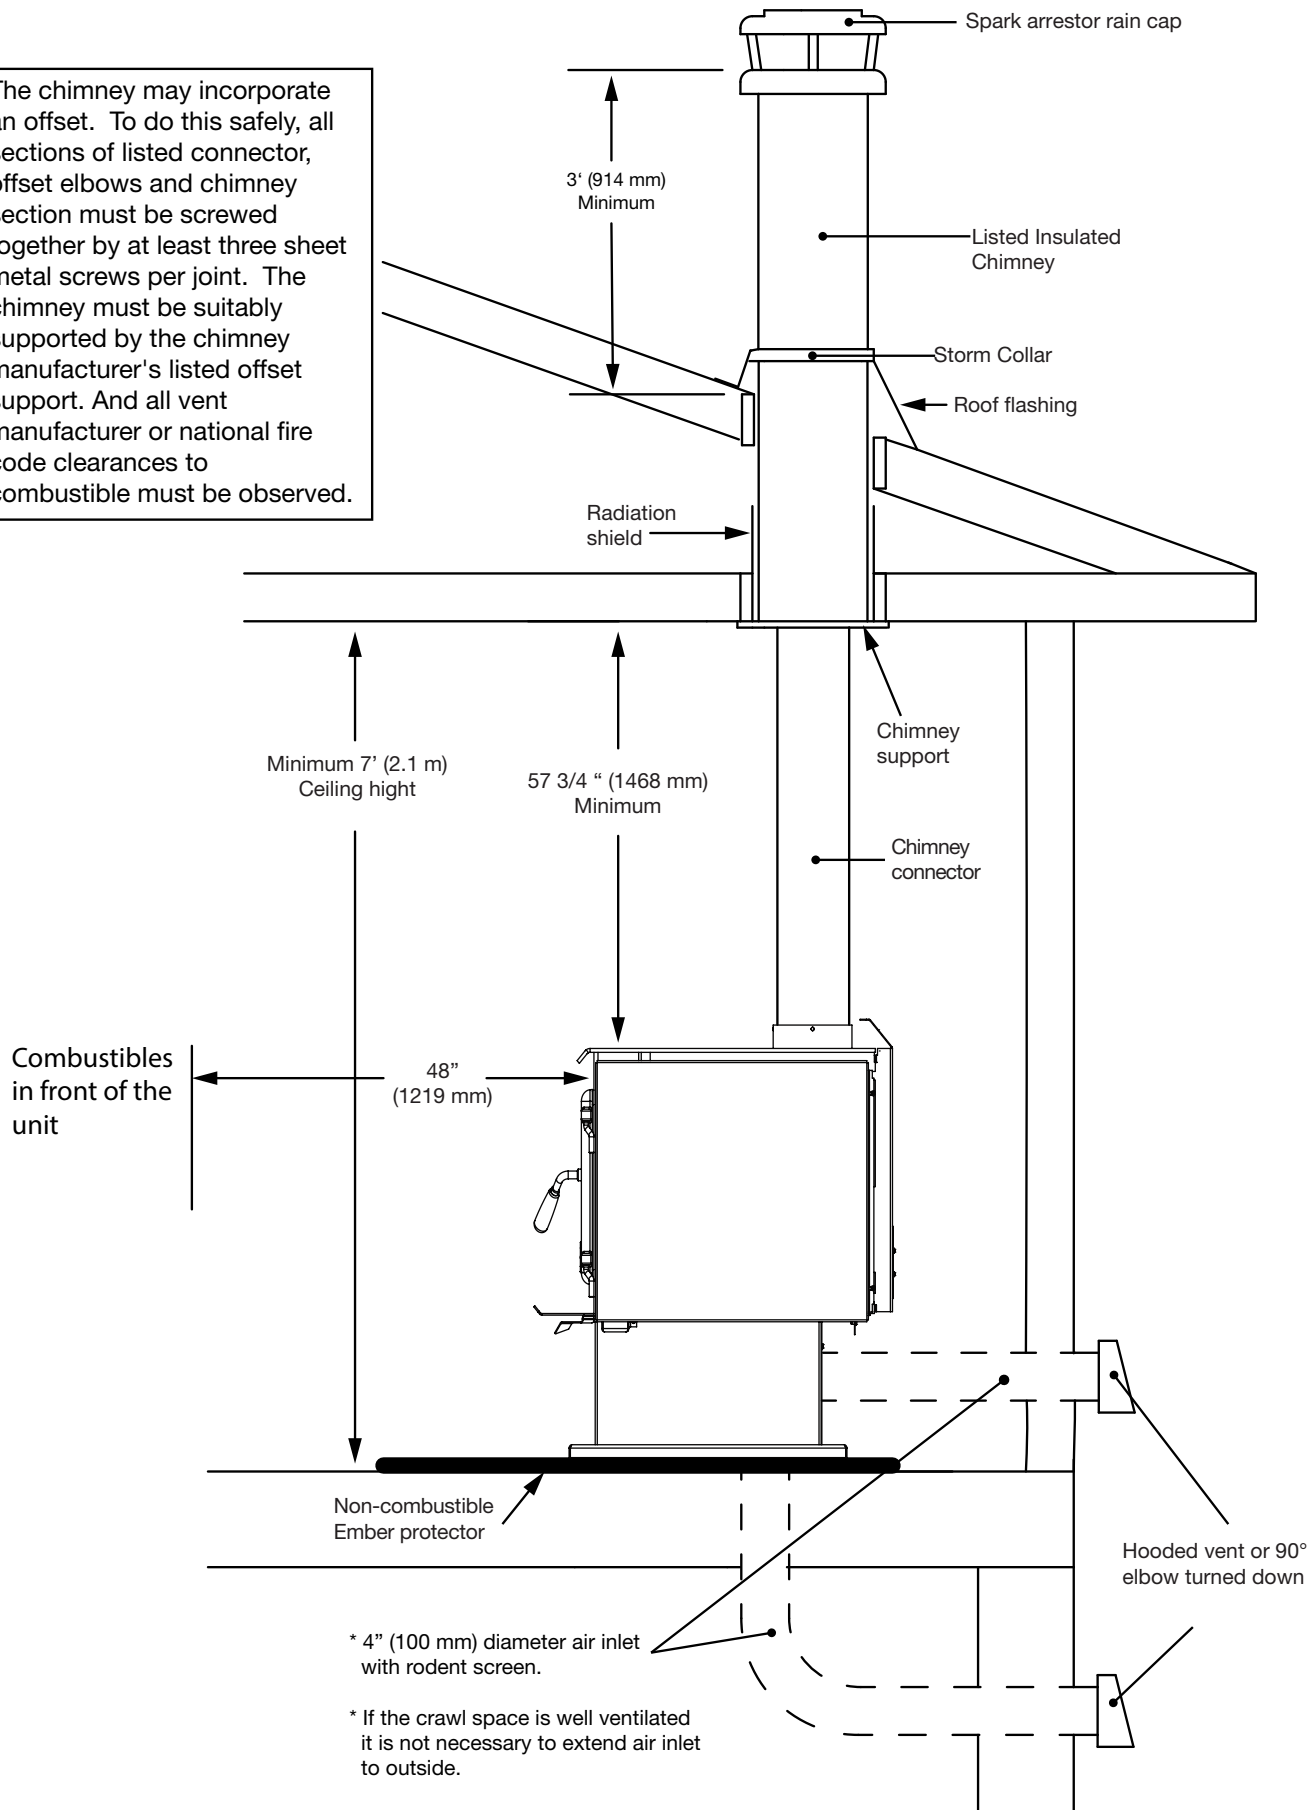
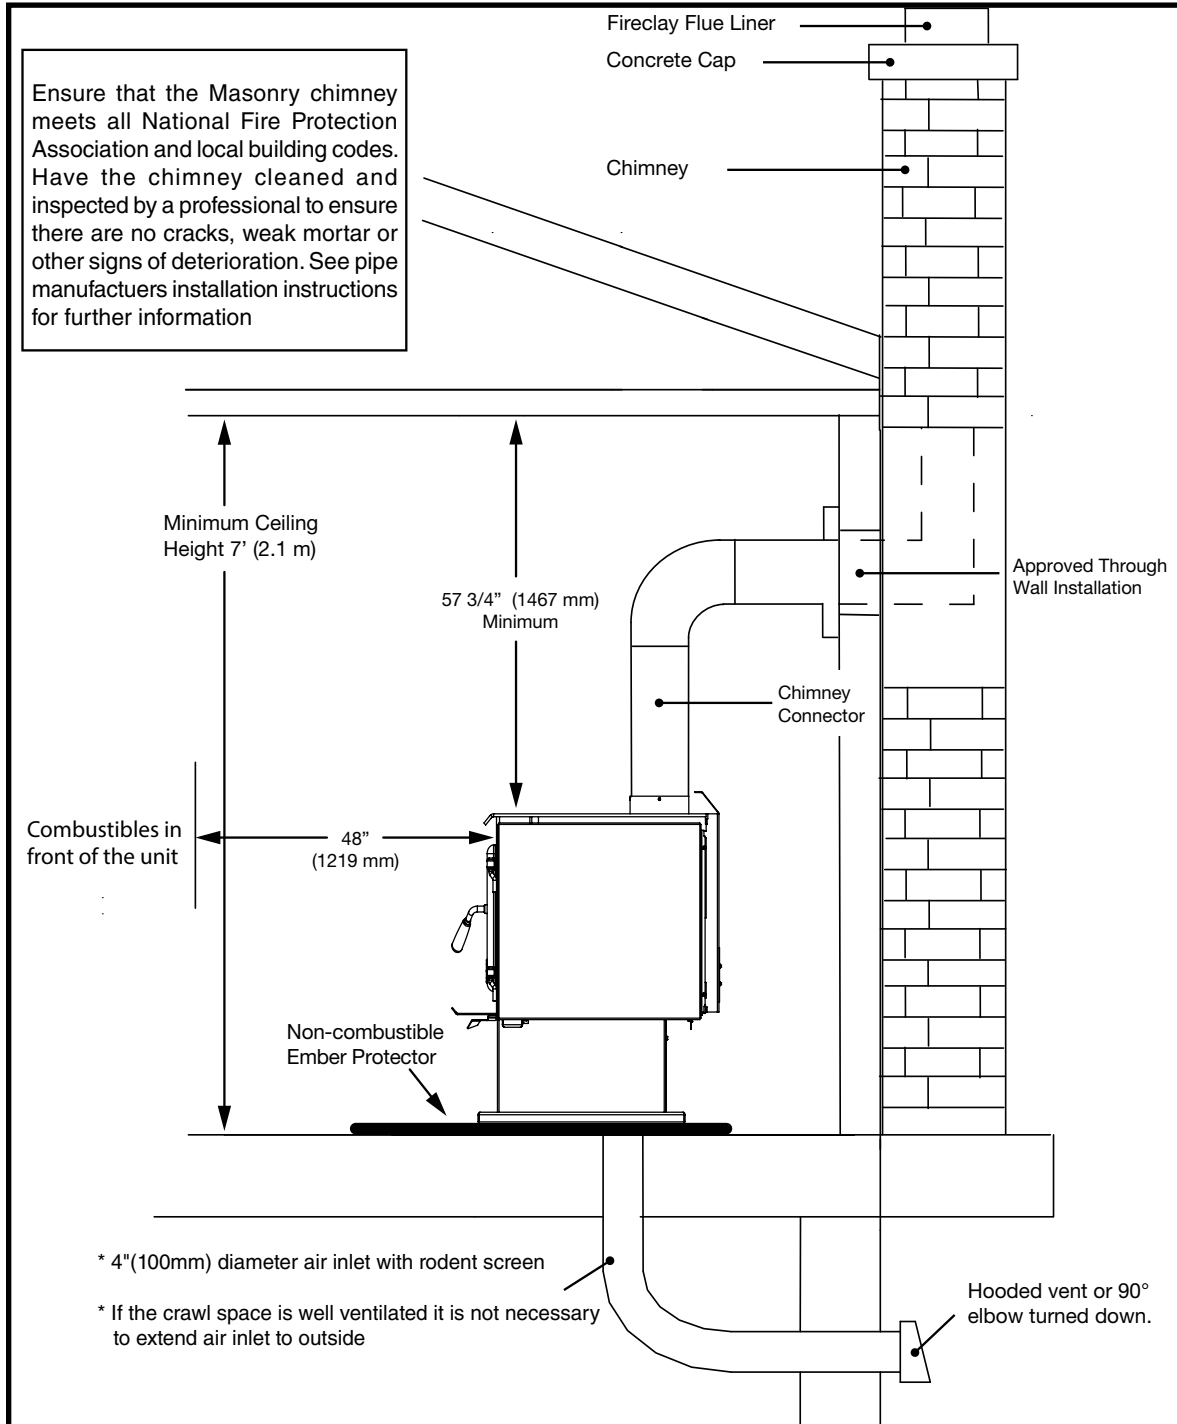

Figure 6: Mobile home or typical home installation.
Figure 7: Venting to a masonry chimney.
1. Position stove and floor protection (with hole for combustion air if required) in accordance with the clearances as stated on the label and in Figure 7 on page 16.
- To draw outside air through the floor; leave the knockout or square cover plate in the rear of the pedestal in place. Use an approved 4"(100mm) inlet vent cap. Cut or drill a 4"(102mm) diameter or larger hole in the floor anywhere inside the perimeter of the pedestal base. Cover the hole with a 20GA wire mesh minimum, rodent screen and staple/nail in place. This hole must get its air from a ventilated crawl space or be extended with duct to the outdoors (see Figure 6 on page 15 or Figure 7 on page 16)
- To draw outside air through the floor; Cut or drill a 4"(102mm) diameter or larger hole in the floor under the stove. Attach the outside air adapter (OAIR.1B) to the underside of the stove. Connect the adapter to the hole using 4"(102mm) flexible or rigid metal venting. Cover the hole with a 20GA wire mesh minimum, rodent screen and staple/nail in place. This hole must get its air from a ventilated crawl space or be extended with duct to the outdoors (see Figure 6 on page 15 or Figure 7 on page 16. if extended use an approved 4"(102mm) inlet vent cap